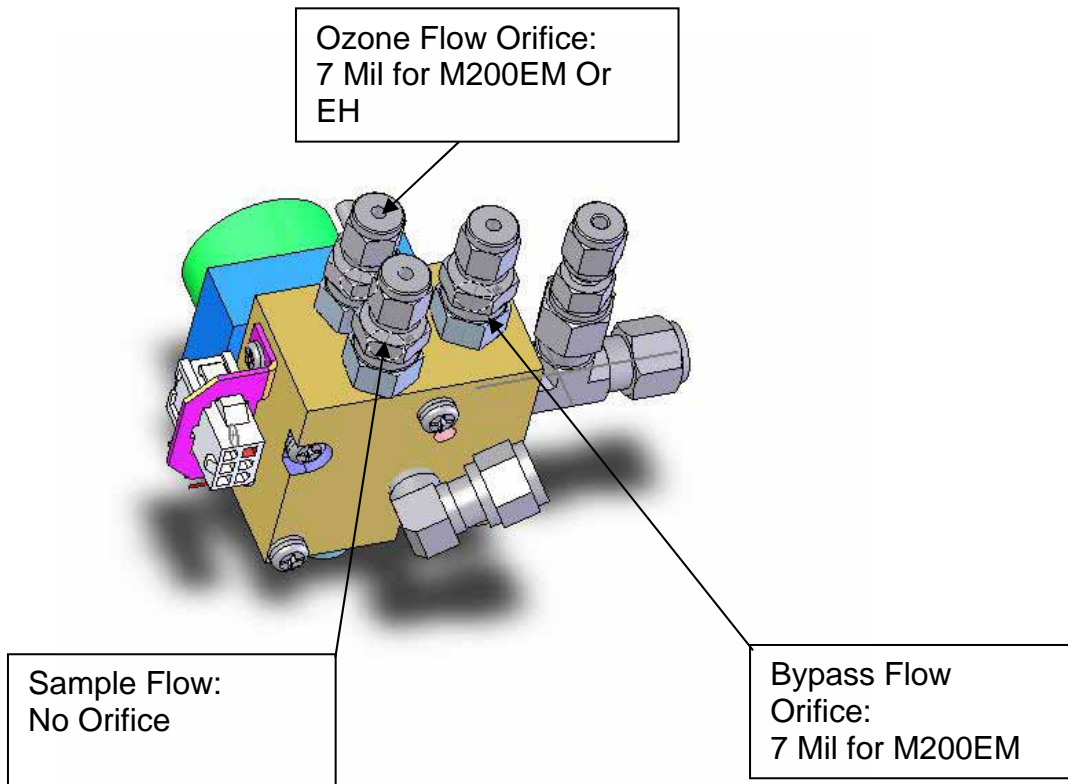

FIGURE 3 - Three Port Reaction Cell Assy P/N 0006028
18. Loosen and remove the bypass flow orifice assembly from the reaction cell manifold by using your 9/16-opened end wrench to loosen the orifice holder (see figure 3, 4).